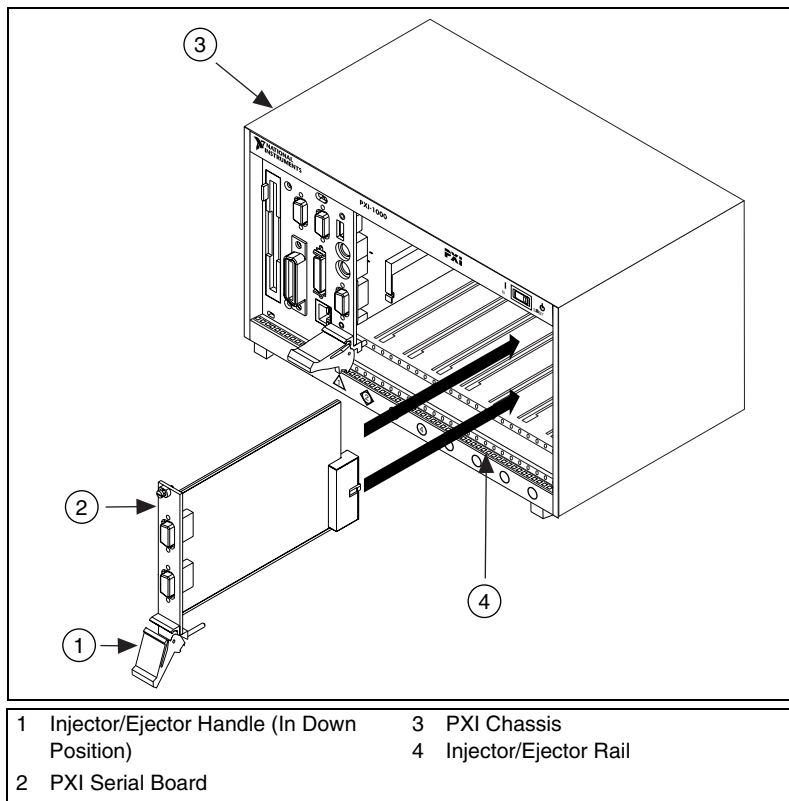

Figure 2-3. Installing the PXI Serial Board
5. Insert the PXI serial board into the 5 V slot. Use the injector/ejector handle to fully inject the device into place. Figure 2-3 shows how to install the PXI serial board into a PXI or CompactPCI chassis.